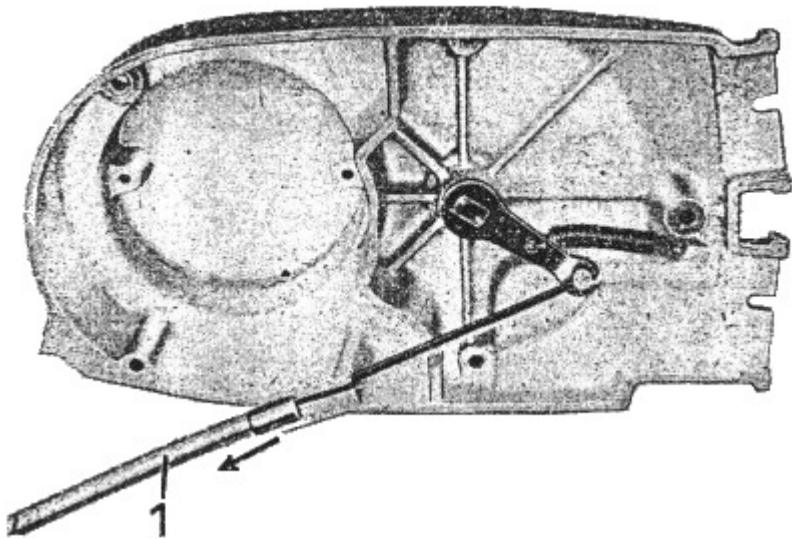

Fig. 9. Unhooking the clutch cable control (1)
4. Dynamo cover to be removed (hexagonal socket head width across flats 5) and clutch cable control (1 in Fig. 9) to be unhooked. For this purpose, draw the cable control sheath out of the cover in the direction of the arrow-head, turn the cable control and lift it out of the lever.